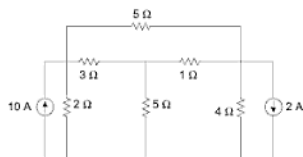

Fig. A1-42
- (b) Use nodal analysis to find the currents in various resistors of the circuit shown (Fig. A1-42).